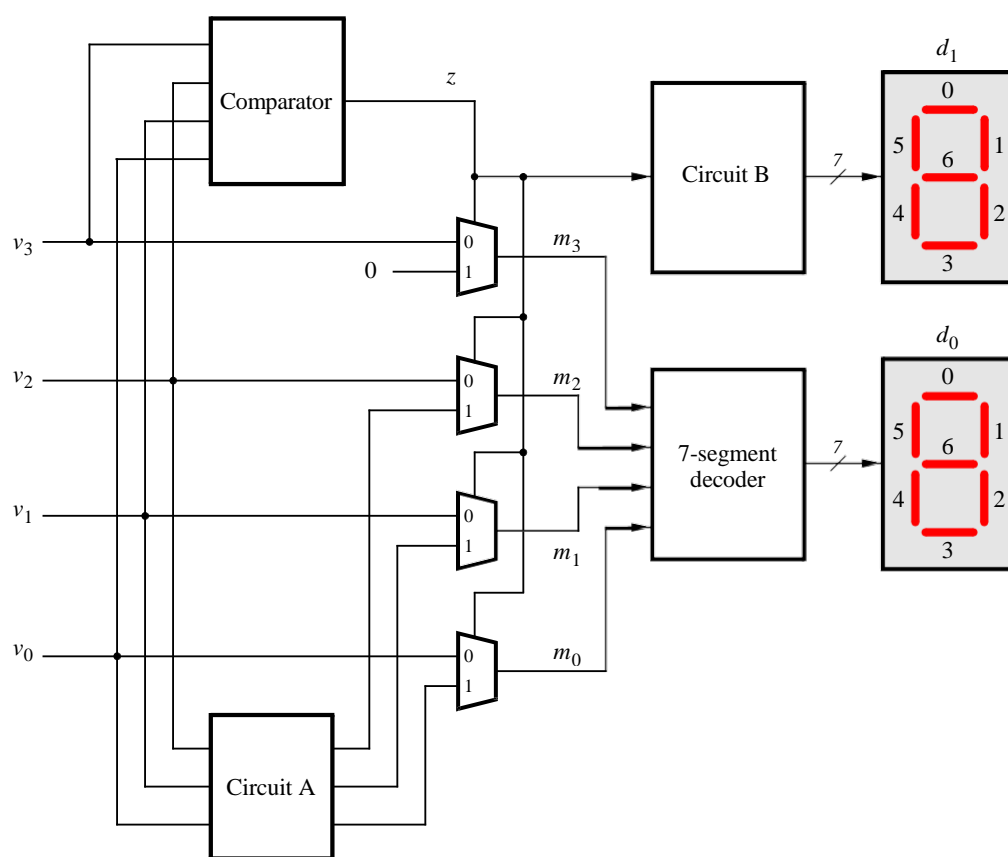

Figure 1: Partial design of the binary-to-decimal conversion circuit.
You are to design a circuit that converts a four-bit binary number $V = v_3v_2v_1v_0$ into its two-digit decimal equivalent $D = d_1d_0$. Table 1 shows the required output values. A partial design of this circuit is given in Figure 1. It includes a comparator that checks when the value of V is greater than 9, and uses the output of this comparator in the control of the 7-segment displays. You are to complete the design of this circuit by creating a Verilog module which includes the comparator, multiplexers, and circuit A (do not include circuit B or the 7-segment decoder at this point). Your Verilog module should have the four-bit input V , the four-bit output M and the output z . The intent of this exercise is to use simple Verilog **assign** statements to specify the required logic functions using Boolean expressions. Your Verilog code should not include any **if-else**, **case**, or similar statements.
3. Augment your Verilog code to include circuit B in Figure 1 as well as the 7-segment decoder. Change the inputs and outputs of your code to use switches SW_{3-0} on the DE2-series board to represent the binary number V , and the displays $HEX1$ and $HEX0$ to show the values of decimal digits d_1 and d_0 . Make sure to include in your project the required pin assignments for the DE2-series board.